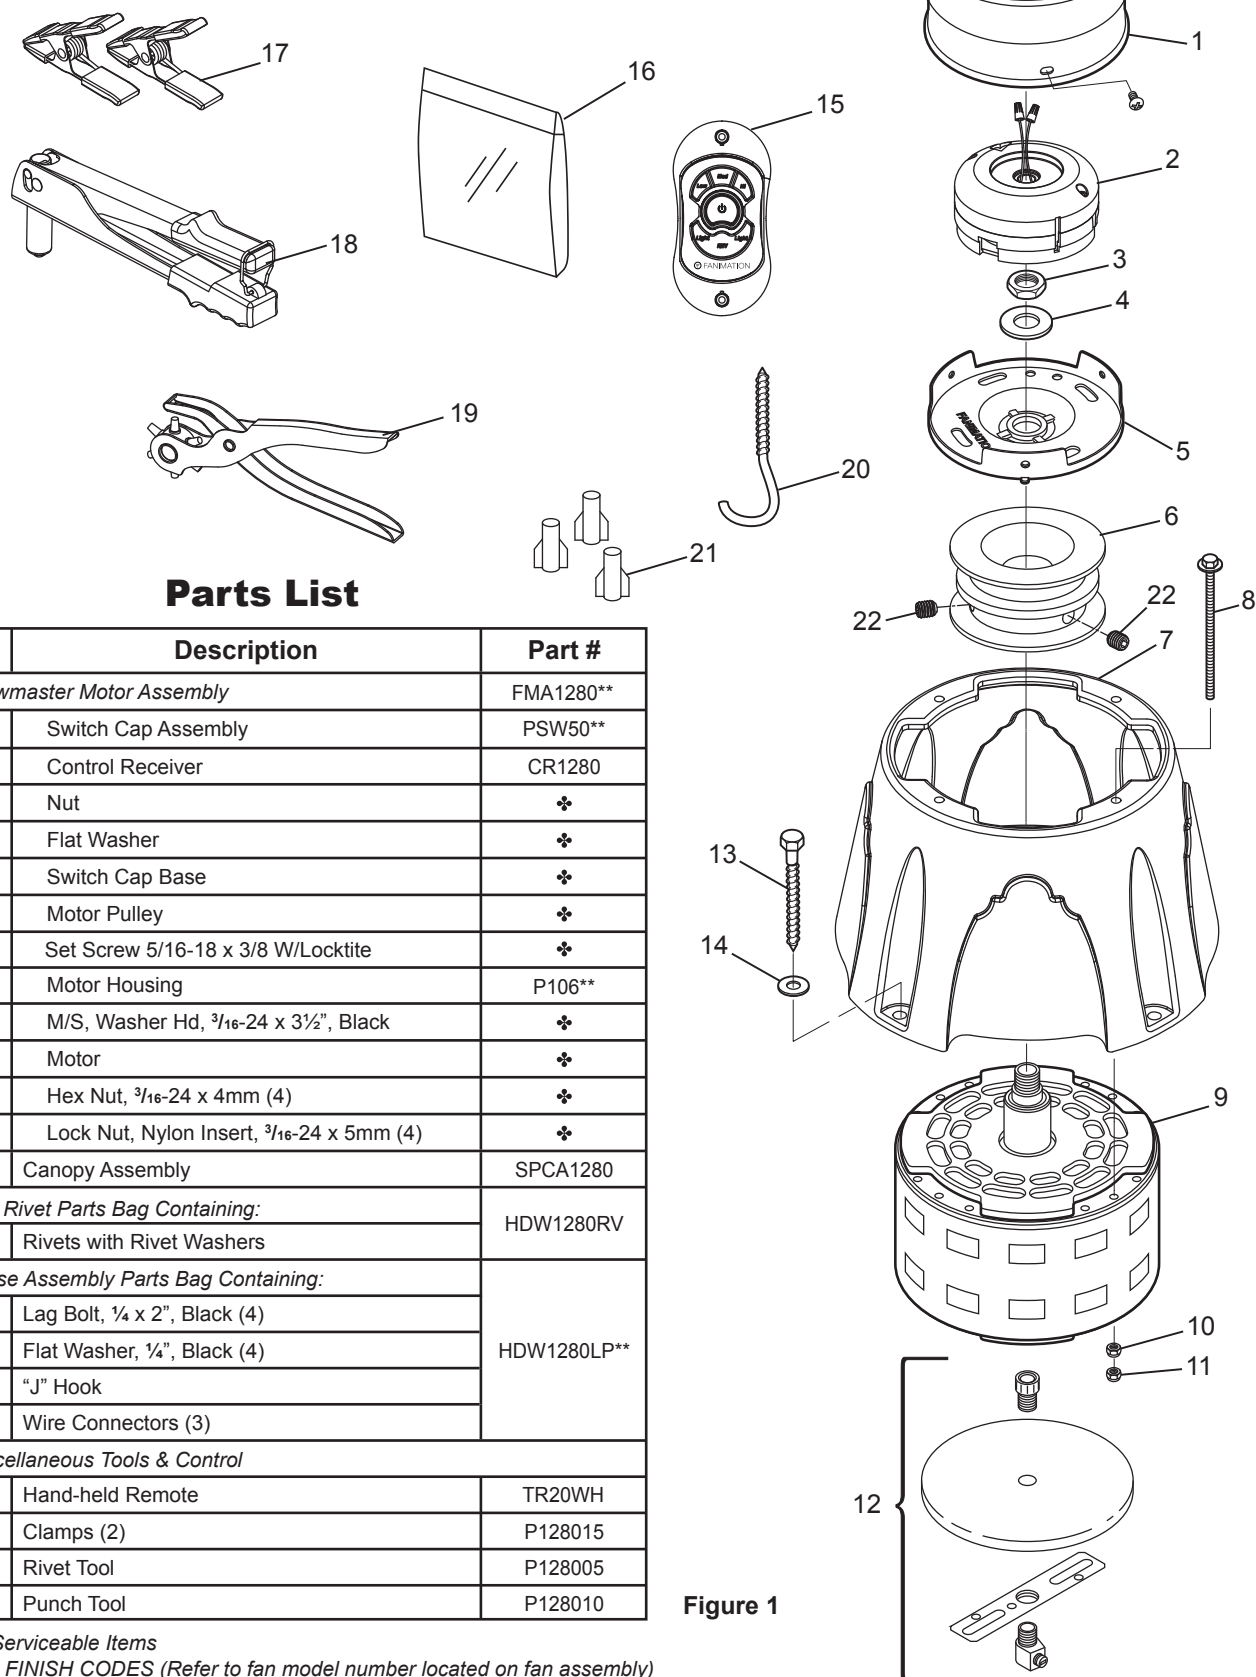

Figure 1
- ☐ 1. Unthread two screws from the wall switch plate. (Figure 1)
- ☐ 1. Drill the two 1/4" holes in wall and use the M6 plastic anchor pushed into the holes. Install the control bracket with two #3- 1" self tap screws. Push the four plastic plug to cover the screw holes. (Including in the control packaging). (Figure 1)